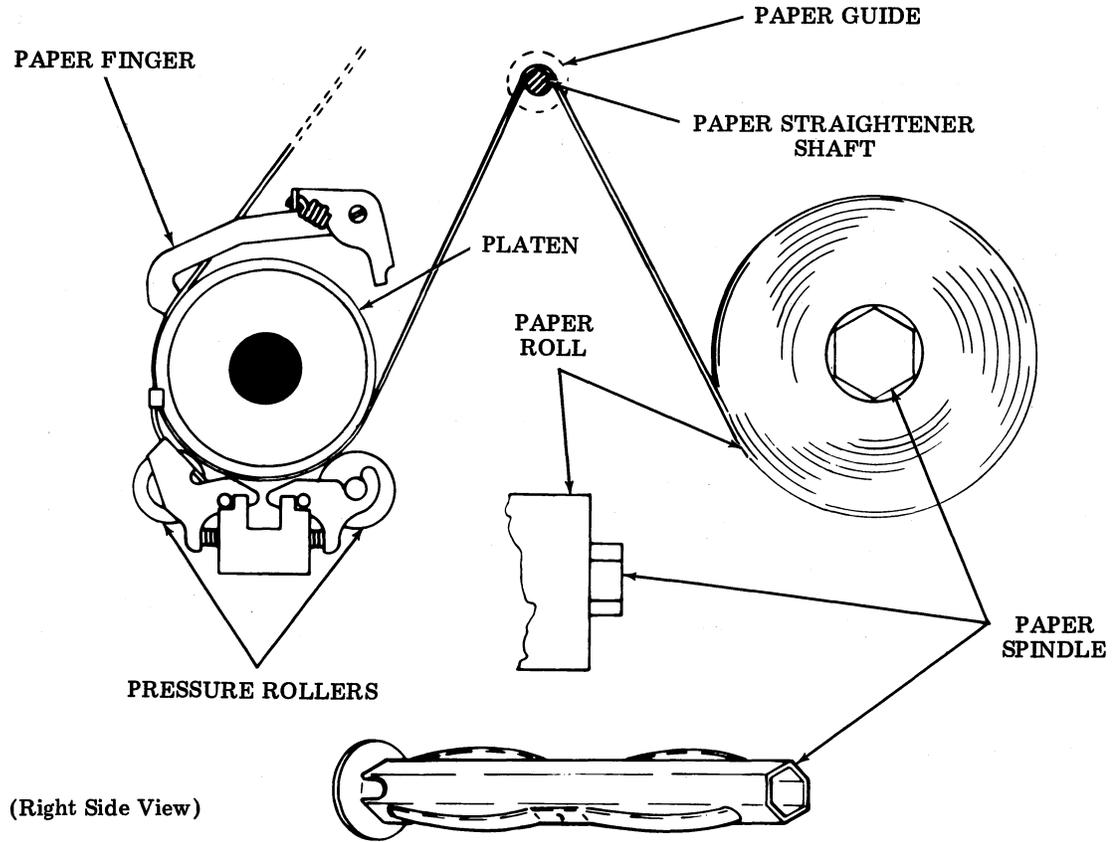

Figure 14 - Paper Routing Assembly — Friction Feed
4.20 Insert the paper spindle into the paper roll and install the paper roll into the spindle blocks. Flip the paper release lever on the top of the right side plate towards the rear of the typing unit to release the pressure rollers. Route the paper over the paper straightener between the two paper guides (Figure 14). Lift the paper finger on the platen and insert the paper between the platen and the pressure rollers. Flip the paper release lever towards the front of the typing unit to hold the paper between the platen and pressure rollers. Turn the handwheel to move the paper through the platen assembly, leaving one foot of loose paper. Lower the paper fingers on the platen assembly and hold the paper towards the front of the typing unit. Close the rear lid. Close the front lid, and position the paper between the window and the paper guide. Be sure that the cover and lids are latched.